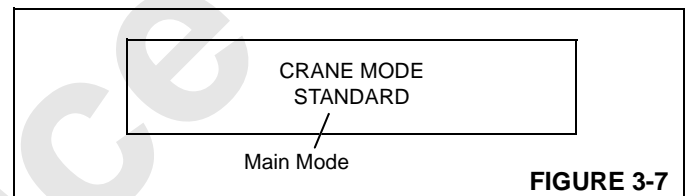

FIGURE 3-7
3. Turn crane mode key clockwise repeatedly until MAX-ER OFF appears on display as shown in Figure 3-7.